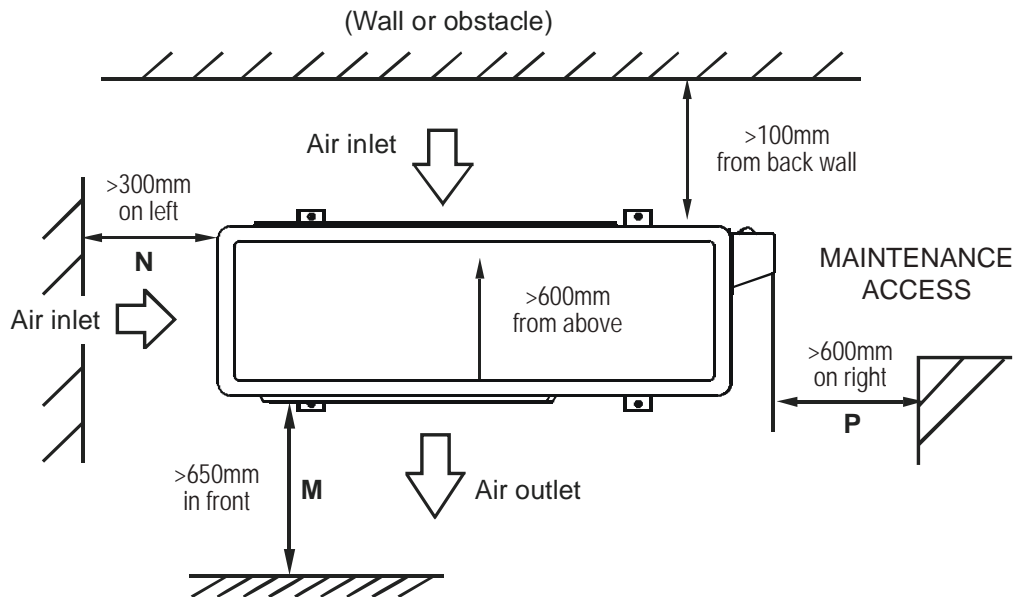

Figure 8.
- The minimum distance between the outdoor unit and walls/obstacles described in the installation chart does not correlate directly to installations in enclosed spaces. In these cases at least two of the three sides should remain open (M, N, P). Refer to "Figure 8." on page 48